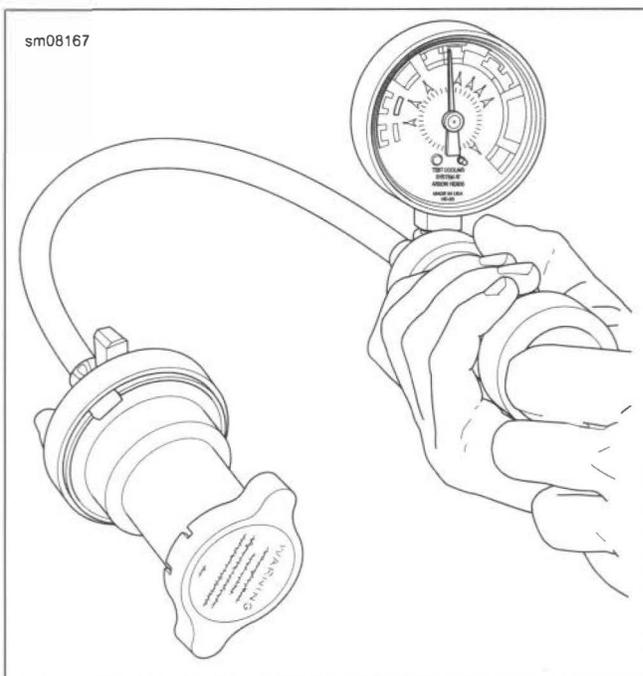

Figure 7-2. Pressure Cap Test
4. See Figure 7-2. Connect tester to pressure cap.